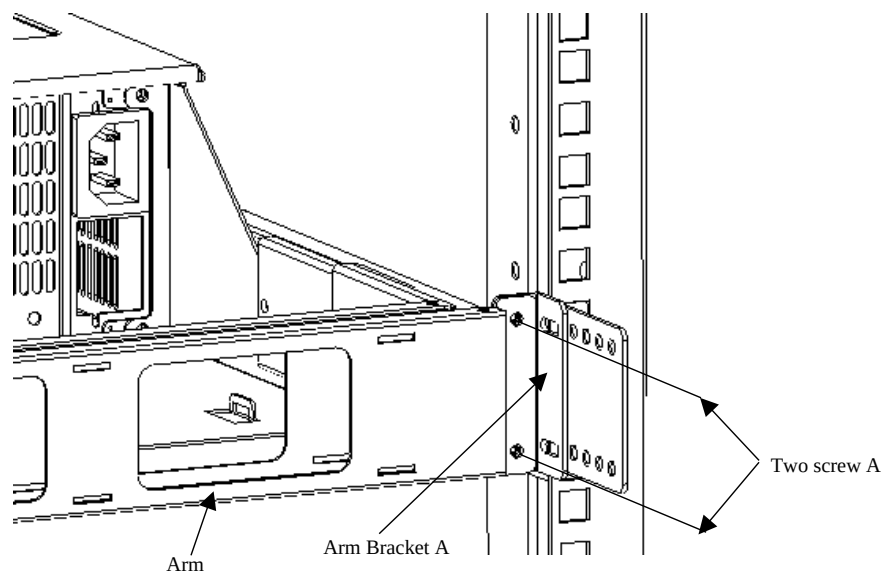

Figure 2-24. Installing the Cable Arm to Arm Bracket A.
6. Install the free end of the cable arm to Arm Bracket A using two 6/32 screws. See Figure 2-24.